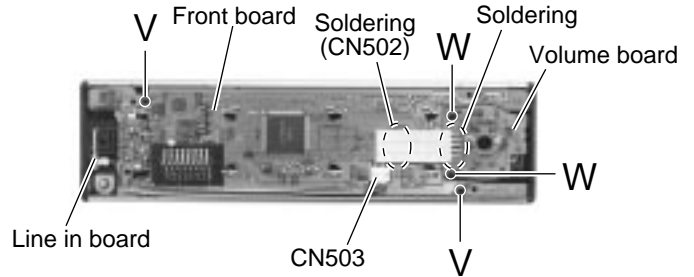

Fig.25
■ Removing the volume board (See Fig.25 and 26)